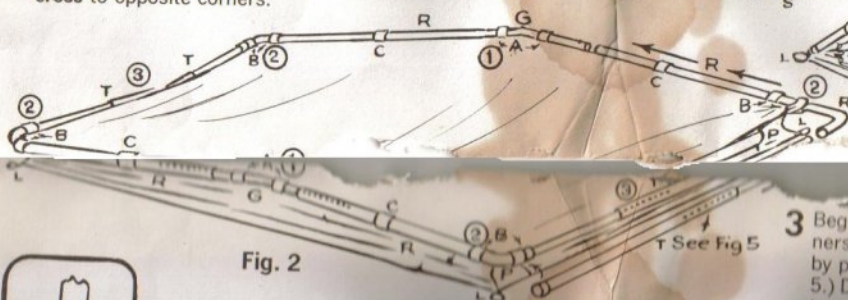
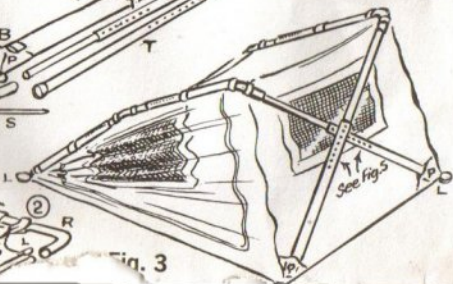
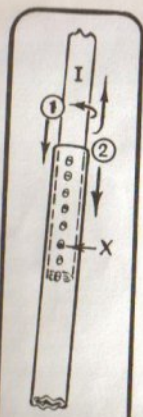

Fig. 2
Fig. 3
Fig. 5
- 2 Begin by putting the 2 gables (G) thru center loops (A) on long edges of top (Fig. 2 ①). Then run straight ends of curved rods (R) thru **both** corner loops B, at each corner ② and then thru side loops (C) till they join gable ends (G). Slide on far as will go, then line up buttons with holes (see Fig. 5) and pull back out till long edges of roof are taut and corner loops are tight. Be sure buttons seat. ③ Extend end rods (T) until buttons seat in first hole. Insert small ends into curved rods (R). Insert plastic feet on larger ends into canvas pockets (P) at tent corners. T-rods **cross** to opposite corners.
- 3 Begin erection of tent by lifting **both** front corners, increasing tension of support rods (T) by pulling out as you go. (See Fig. 3 and Fig. 5.) Don't apply full tension—yet. Now do same to rear corners, this time extending rods (T) to full tension. Finish extension of front T-rod. (Better yet—2 people can erect **both** ends at once.)